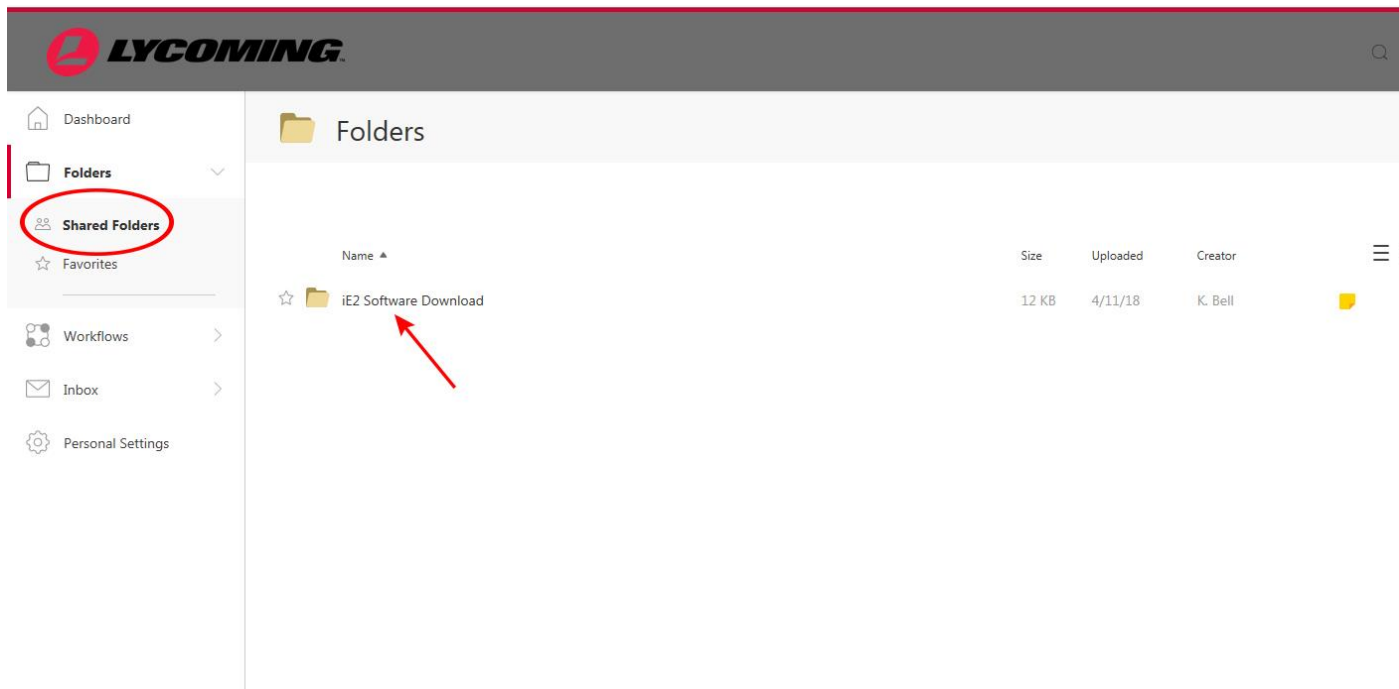

Figure 7
7. After log-in, navigate to the **Shared Folders** page (Figure 7) and double-click on the **iE2 Software Download**.